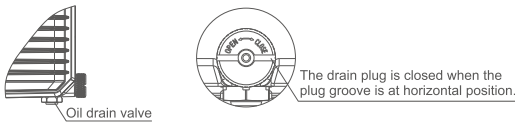

Fig. 5
- 4) Remove the Oil Drain Valve (refer to Fig. 5) to drain the oil.